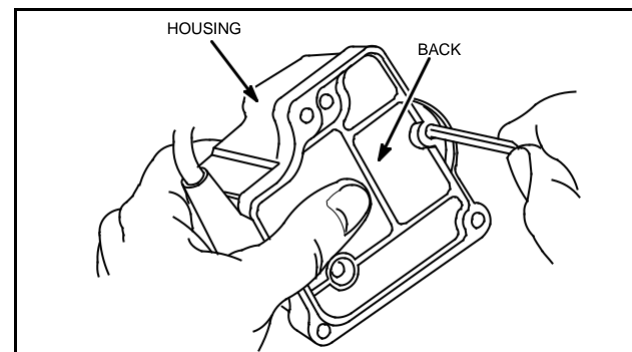

Fig. 704 – REMOVING BACK PLATE
1. With control assembly removed from mounting surface, remove three screws holding back plate to housing, Fig. 704.